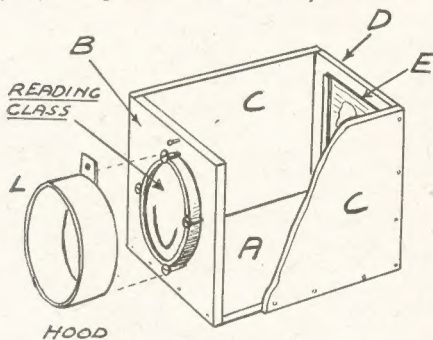

Fig. 1—General construction and parts
The viewing box is built on a base (A) Fig. 1, 5 ins. wide and as long as the lens-picture distance just obtained, and ¼ in. thick. On the forward edge of this is the front (B) from which there is taken a circular opening a shade smaller than the diameter of the reading-glass, which latter is fixed in front as shown by four screws.